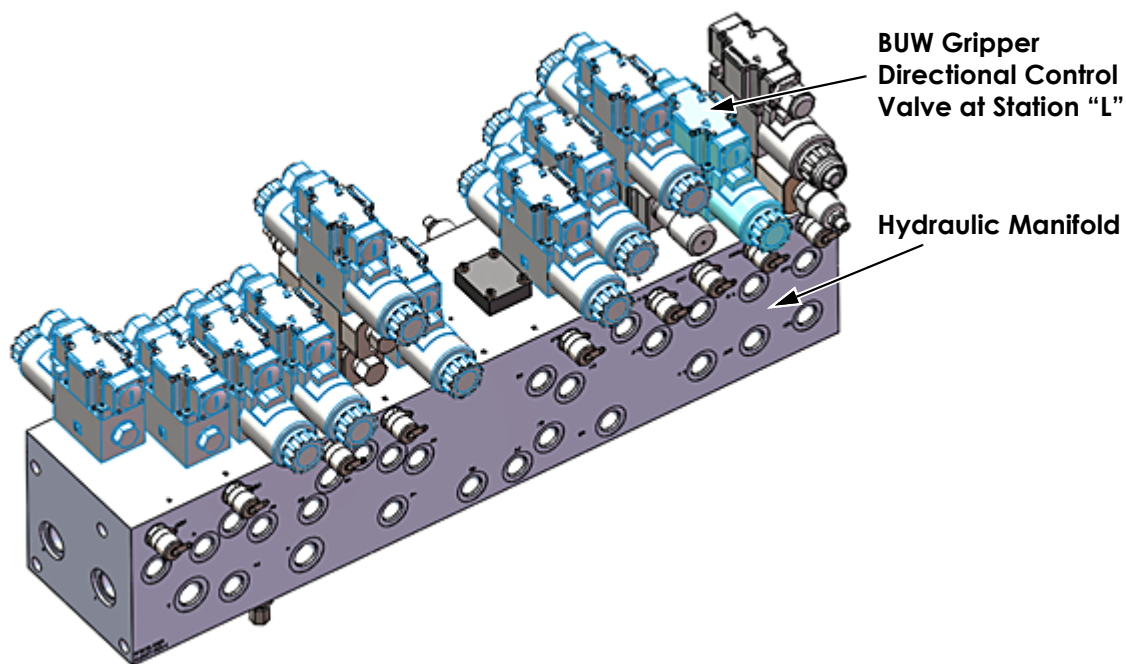

Figure 4: Hydraulic manifold
1. See Figure 4 to locate the BUW gripper valve bank (station L) on the top drive hydraulic manifold.